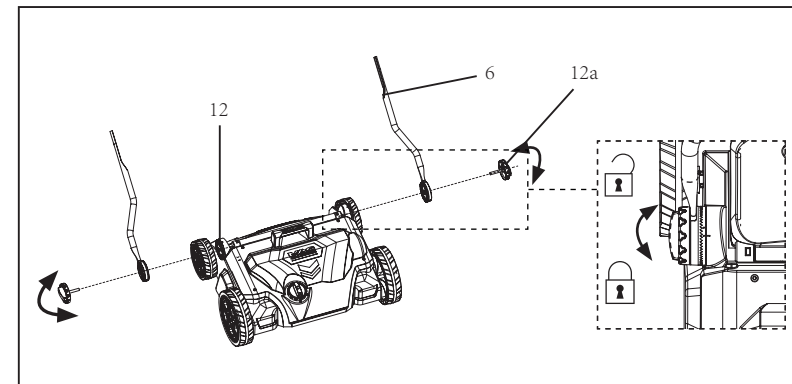

Fig. 1
1. Align the lower handle bars (6) with the handle supports (12) and secure them with knob (12a) on each side (Fig. 1).